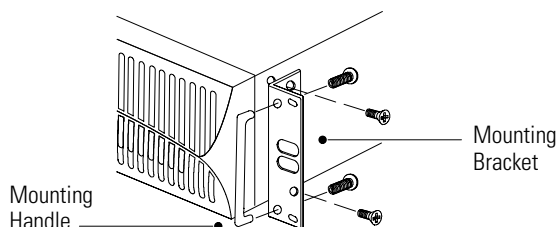

Figure 1. Installing the Mounting Brackets
2. Attach the mounting handles to the bracket with the screws provided in the accessory kit (see Figure 1).
3. Align the mounting brackets with the screw holes on the side of the PDM and secure with the supplied screws (see Figure 1).